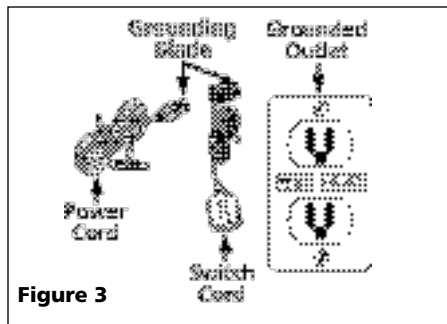

Figure 3
- Insert the pump power cord plug directly into the back of the float switch cord plug (See Fig. 3).